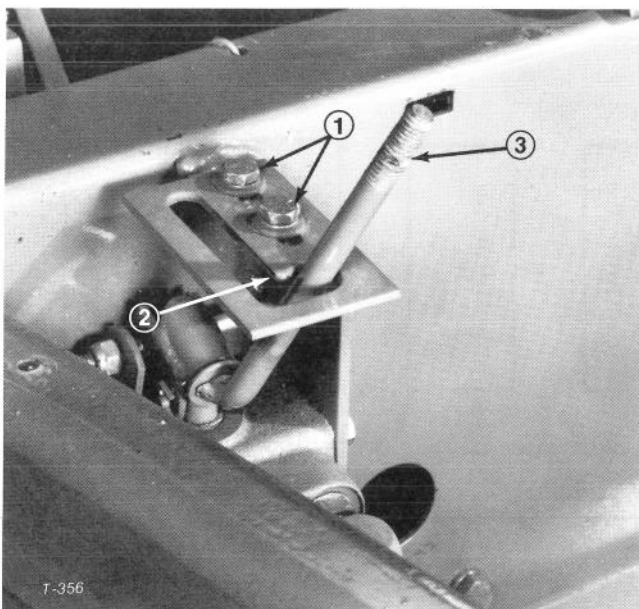

Figure 74
3. Loosen two capscrews on top of the lift lever latch (Fig. 74). Place lever on rounded tip of latch (Fig. 74), and slide latch w/lever forward until stopping resistance is felt. Then tighten capscrews to lock the latch in place. Check for free operation of the lift lever by moving lever from RAISE or TRANSPORT to FLOAT position. Lift lever should just clear rounded position of latch as lever is moved into FLOAT position.